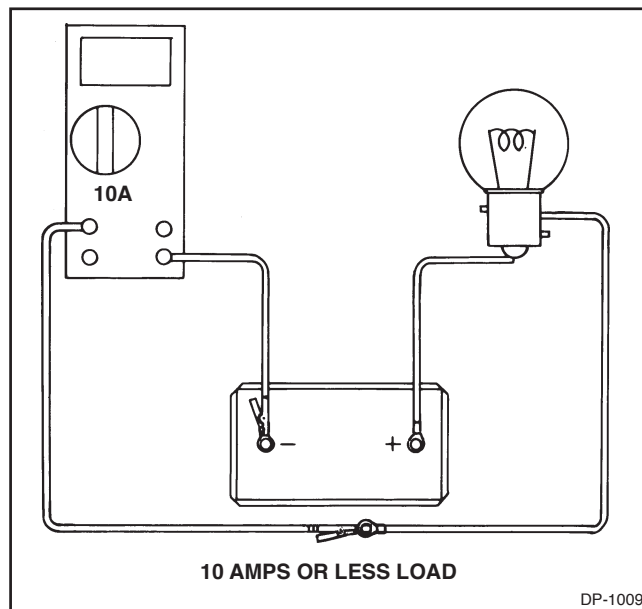

Figure 1-9. In-Line Digital Ammeter
1-19. AMMETER USE. Figures 1-9 through 1-11 illustrate the use of various types of ammeters.
1. Figure 1-9 illustrates the use of an in-line digital ammeter. Note that the circuit must be disconnected in order to use this type of meter. The unit shown is an internal shunt type and generally used for loads of 10 amps or less. Care must be taken not to measure current greater than the meter rating. This type of ammeter is not recommended for most of the measurements described in this manual. However, if this is the only type available, be sure to follow the meter manufacturer's instructions for connection and use.